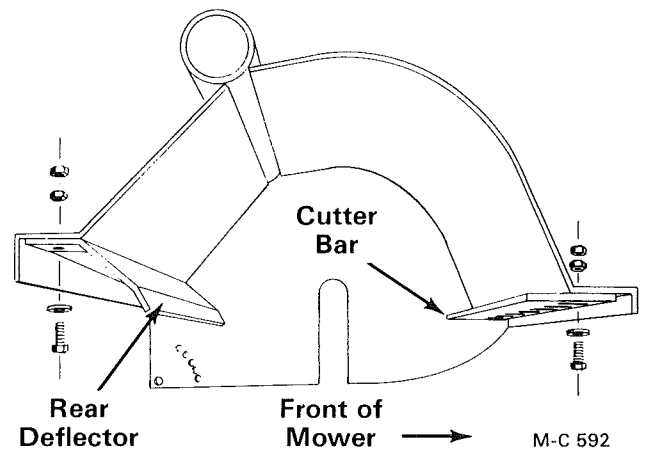

Figure 10
1. Bolt the rear deflector to the mower body with $\frac{1}{2}$ -13 x 1 $\frac{3}{4}$ " (Grade 5) hex-head capscrews and hex-nuts. The heads of the capscrews go to the inside, see Figure 10.